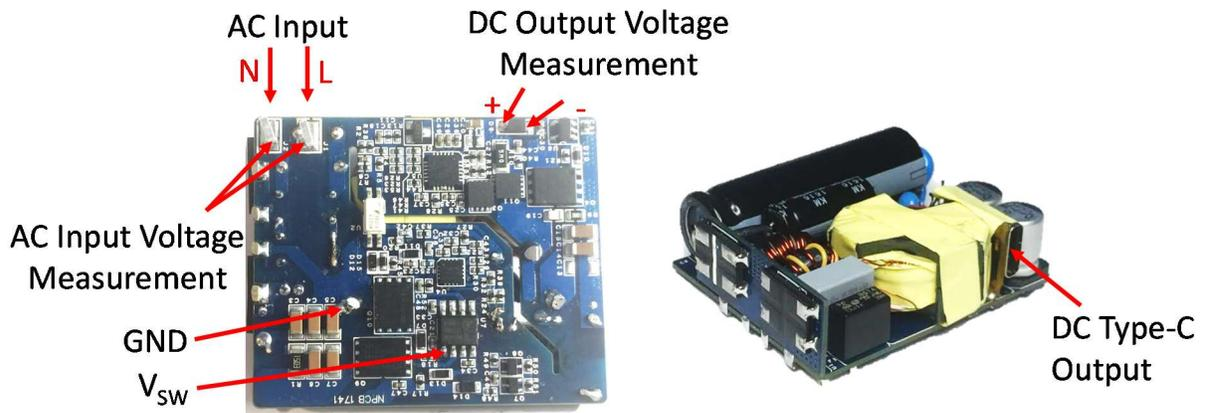

Fig 3c: Connections
Please refer to the connection diagram in Fig 3c.
Switching waveforms can be measured between V_{sw} and GND (shown in Fig 3c). GaN half-bridge circuits are fast and sensitive to parasitic capacitance introduced by voltage probes.
1. For full load efficiency measurement, connect both input and output voltage meters at board edges (Fig 3c). Run > 15min before measuring.